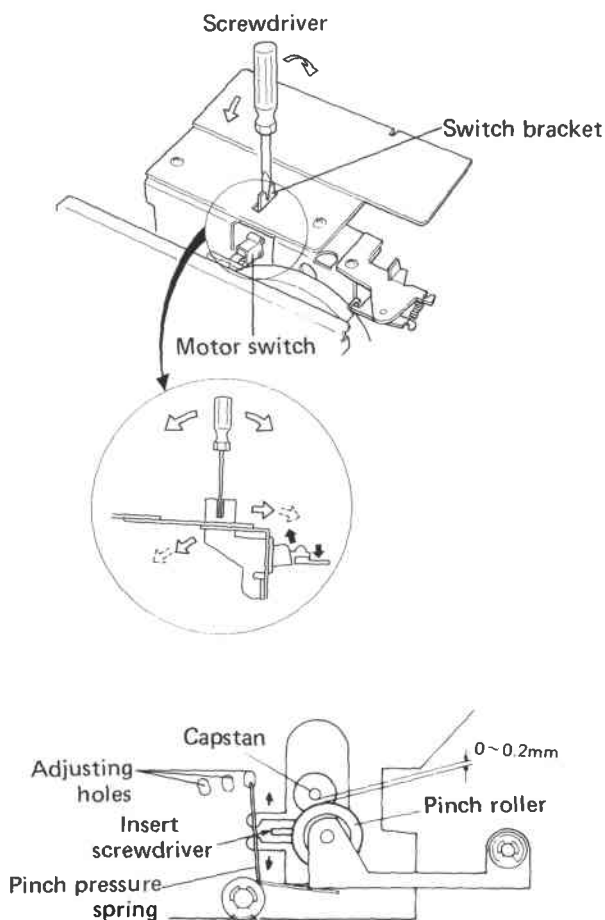

Fig. 23 Motor switch and play timing adjustment
1. Insert a screwdriver into the groove in the switch bracket shown in Fig. 23, and adjust the bracket (by moving it back and forth) so that the motor switch is turned ON (reel turntable rotates) the instant the pinch roller is pressed against the capstan.
3. When the distance between the capstan and pinch roller is within 0 — 0.2mm and the adjustment standard cannot be satisfied by the adjustment of item 1 above, roughly adjust by moving the switch bracket back and forth so that the motor switch is turned on when the distance between the capstan and pinch roller is within 0 — 0.5mm.
4. After the adjustment of item 3 is completed, insert a screwdriver at the point where the capstan and pinch roller make contact, and adjust so that the distance between the capstan and pinch roller is within 0 — 0.2mm, being careful not to damage the pinch roller with the screwdriver.